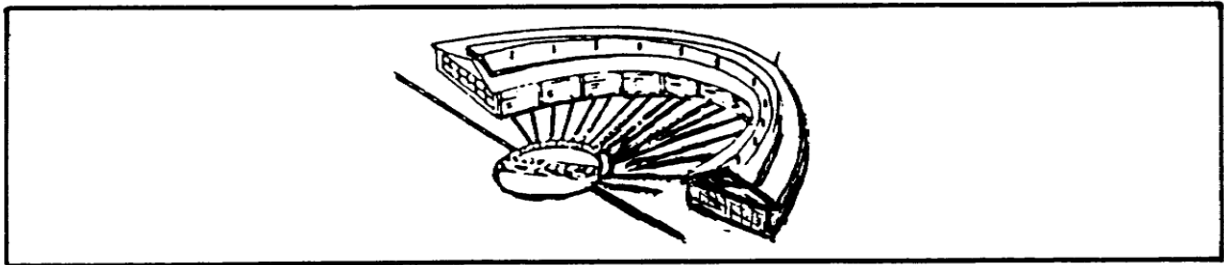

Figure 1-14. Roundhouse with Turntable.
2. Roundhouses may be either circular or half circular in shape or in the shape of a rectangle. Turntables are usually associated with a roundhouse and may vary from 15 to 30m in diameter. The number of vents in the roof denotes the capacity of the roundhouse for locomotives. Light repairs and maintenance are carried out on the locomotives in the roundhouse (Figure 1-14).